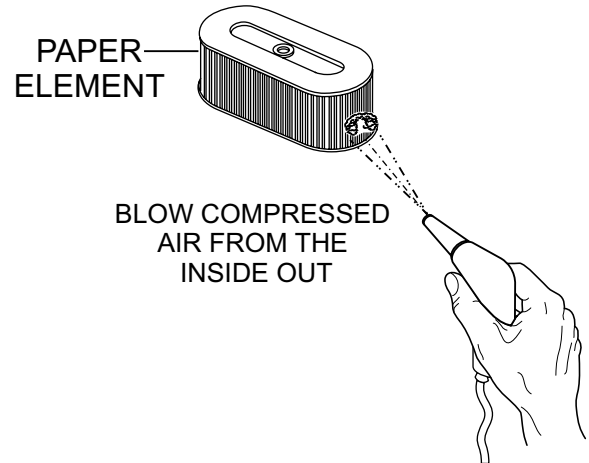

Figure 18. Cleaning Paper Element
3. To clean the paper air filter element as referenced in (Figure 18), tap the filter element several times on a hard surface to remove dirt, or blow compressed air (not to exceed 30 psi (207 kPa, 2.1 kgf/cm²) through the filter element from the inside out.